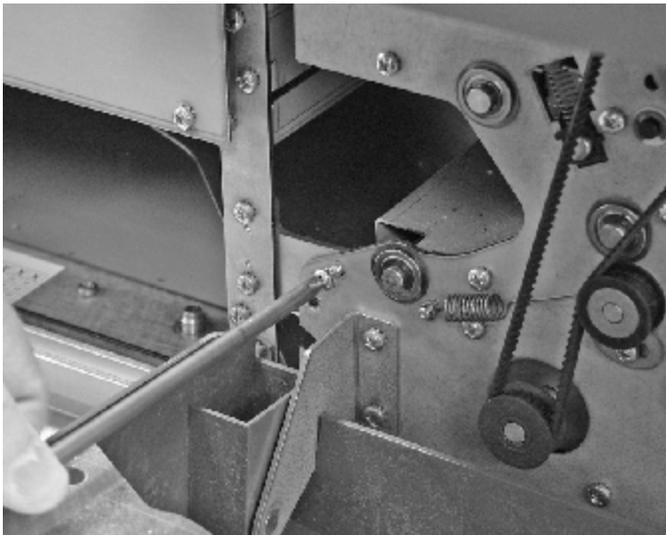

Figure 17 Securing the HCSF to the Base Unit
12. Secure the HCSF to the base unit with four screws—two on the operator side and two on the drive side. See Figure 17.